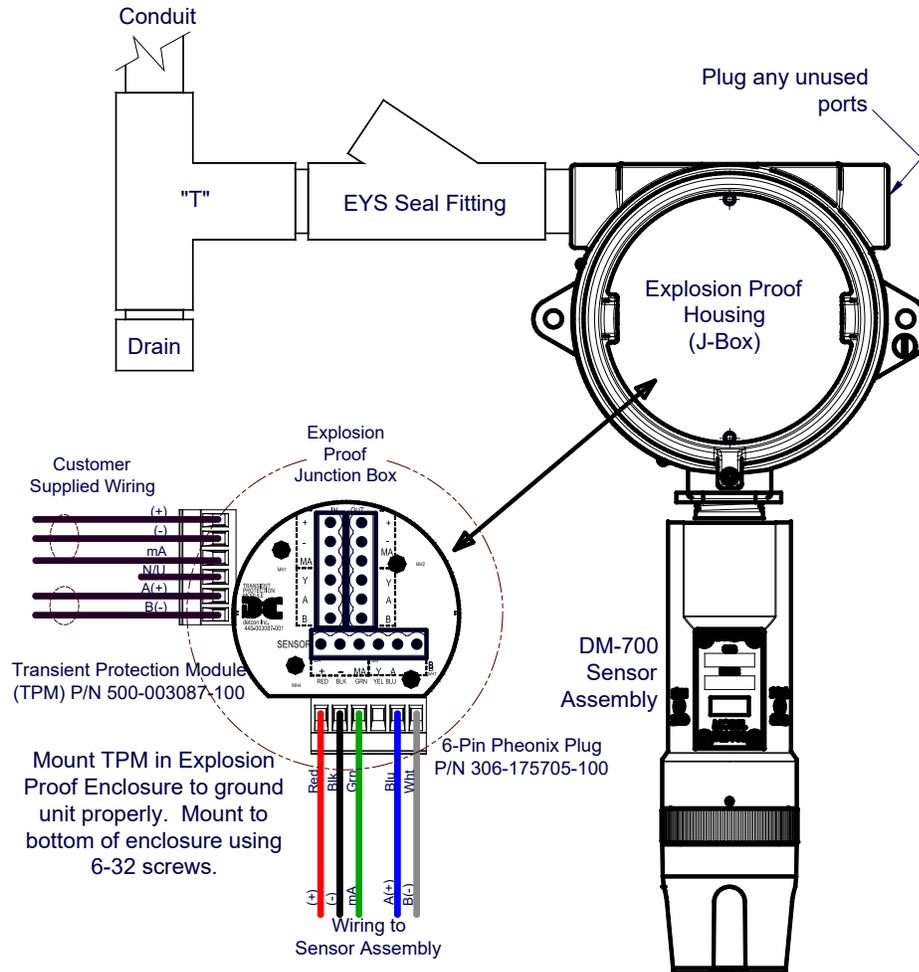

Figure 12 Typical Installation
**NOTE:** All installations of the gas sensor should point straight down (refer to Figure 12). Improper sensor orientation may result in false readings and permanent sensor damage.
Proper electrical installation of the gas sensor is critical for conformance to Electrical Codes and to avoid damage due to water leakage. Refer to Figure 12 and Figure 13 for proper electrical installation.
**NOTE:** If a conduit run exits the secondary port, repeat the installation technique shown in Figure 12.
In Figure 12, the drain allows water condensation inside the conduit run to safely drain away from the sensor assembly. The electrical seal fitting is required to meet the National Electrical Code per NEC Article 500-3d (or Canadian Electrical Code Handbook Part 1 Section 18-154). Requirements for locations of electrical seals are covered under NEC Article 501-5. Electrical seals also act as a secondary seal to prevent water from entering the wiring terminal enclosure. However, they are not designed to provide an absolute water-tight seal, especially when used in the vertical orientation.
**NOTE:** For products utilizing the aluminum junction box option, the conduit seal shall be placed at the entry to the junction box (see Figure 12 as an example). For products utilizing the stainless steel junction box option, the conduit seal shall be placed within 18” of the enclosure. Crouse Hinds type EYS2, EYD2 or equivalent are suitable for this purpose.